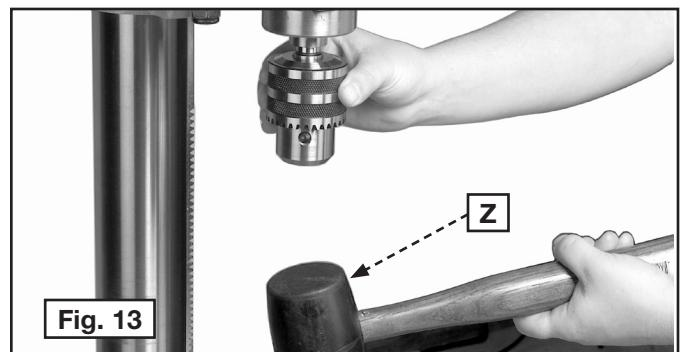

Fig. 13
IMPORTANT: Rotate the chuck until the chuck jaws are fully retracted inside the chuck. Hold the chuck on the taper of the spindle. Tap it with a soft-tip hammer (Z) Fig. 13 or a block of wood and hammer to set the chuck.